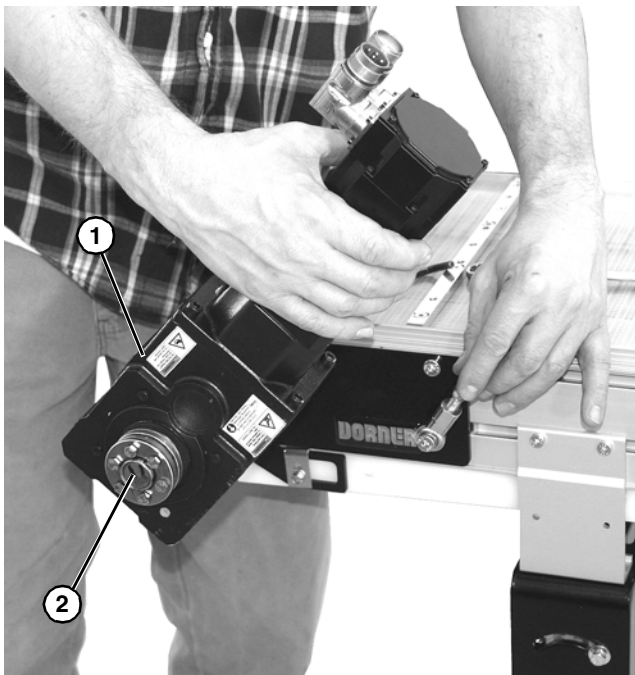

Figure 61
5. Remove servo assembly (**Figure 61, item 1**) from shaft (**Figure 61, item 2**).